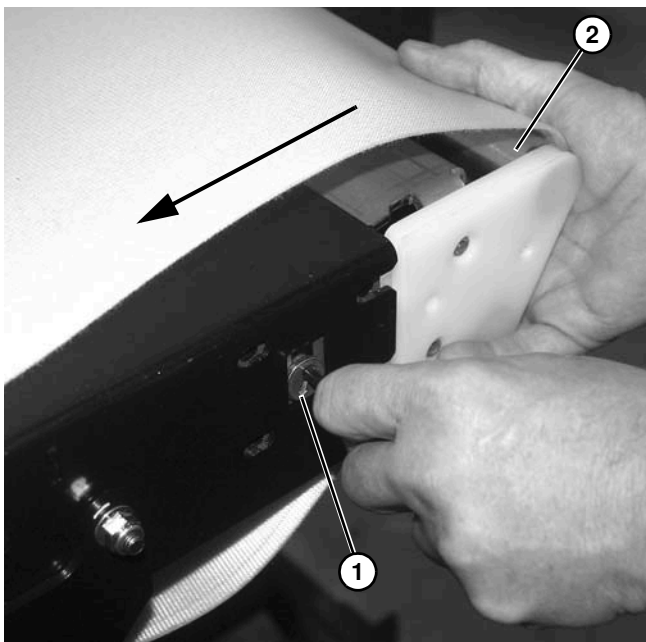

Figure 130
4. Rotate tracking cam (**Figure 130, item 1**) on both sides of conveyor to loosen belt tension and move nose bar tail (**Figure 130, item 2**) inward.